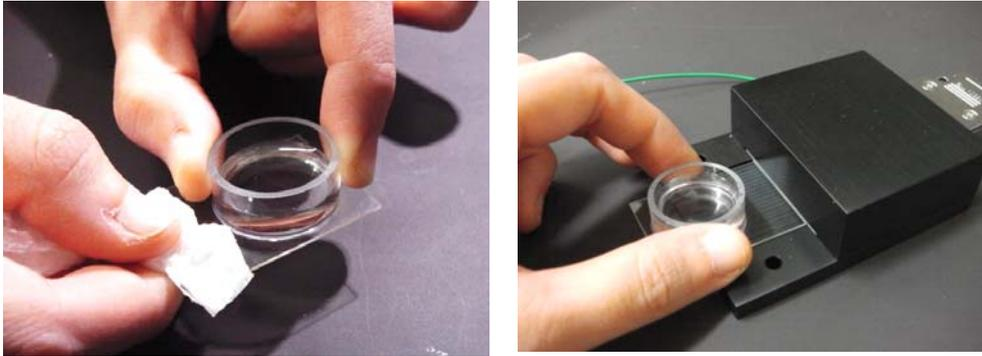

Figure 2-13. Loading the MED Probe 16 into the MED-C04 Connector.
1. Load the 4 MED Probe 16 filled with saline into the MED Mini Connector. Grab the chamber or edge of the bottom of the glass, and NOT the terminal (leads). Clean the terminal with kim-wipe before loading it (Figure 2-13).